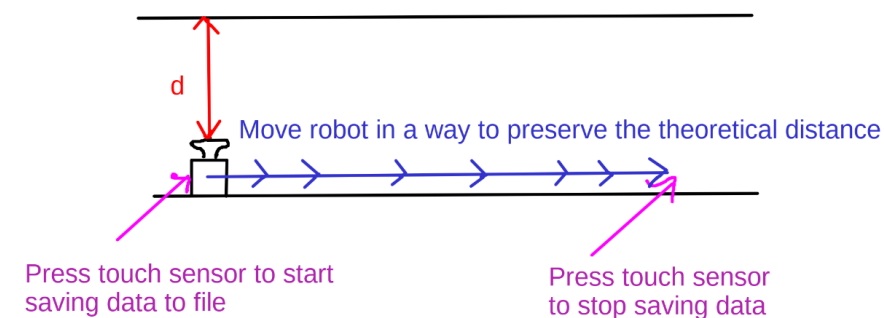

Figure 1: Bird's eye view of the robot's trajectory for the US sampling test
- c. Keep sliding the robot for a distance of at least 60cm. Then, press the touch sensor again to stop saving data to the file (see figure 1; the blue line should be at least 60cm long).